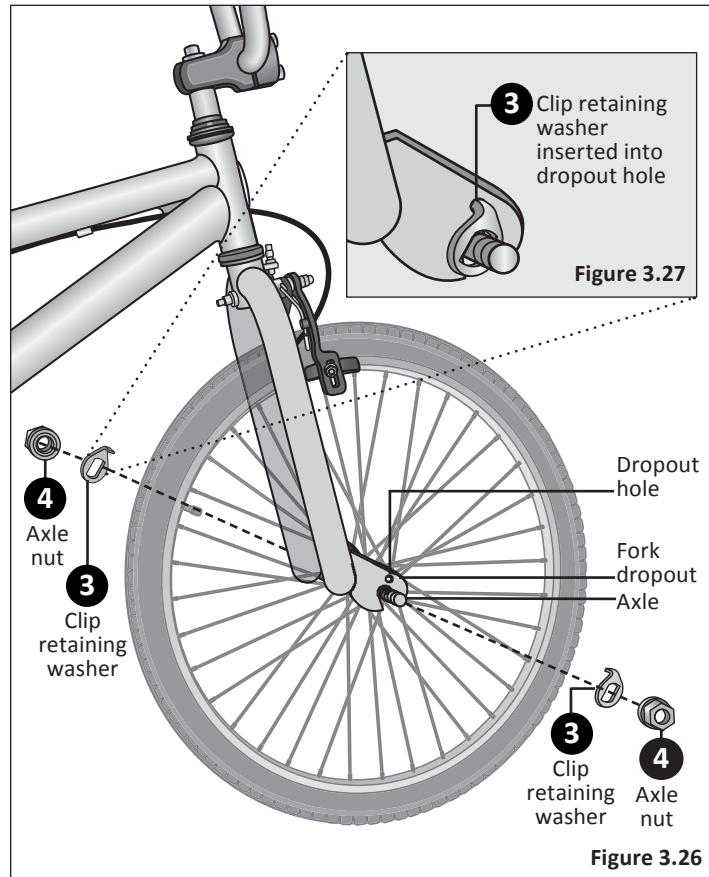

Figure 3.26
- 2 Position the front wheel between the front fork legs with the axle resting inside the fork drop out. **Figure 3.26**